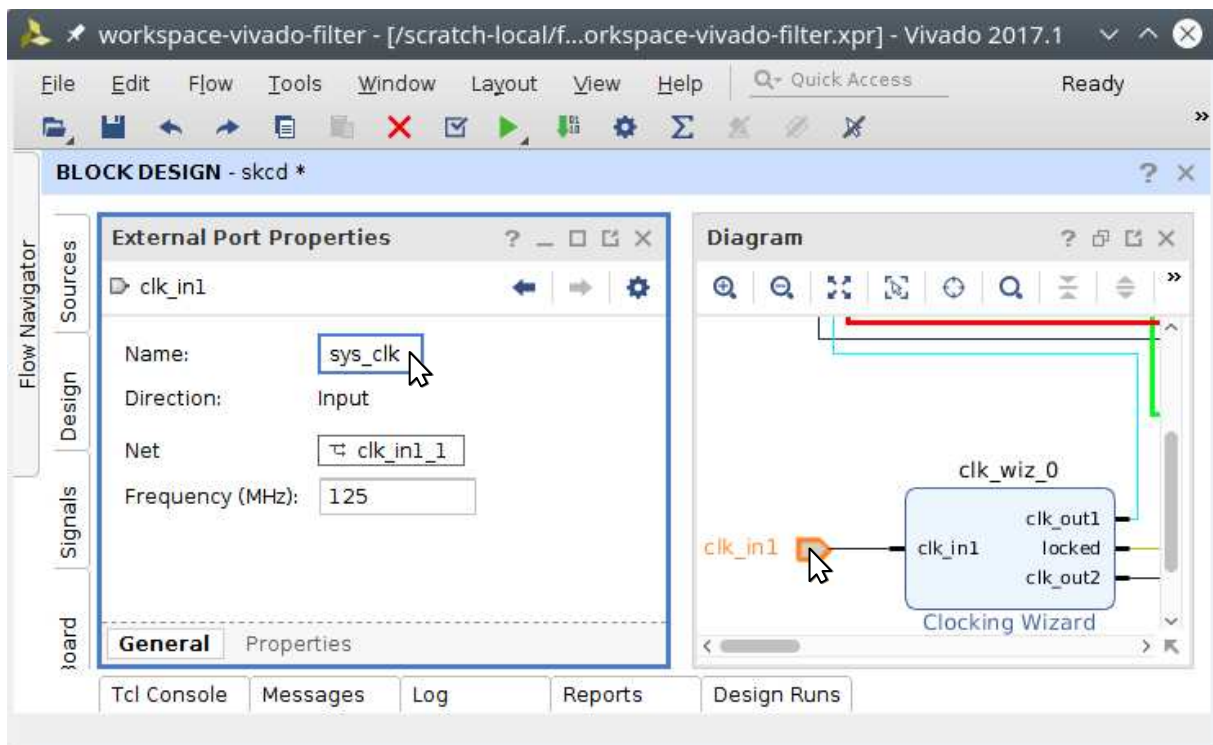

Figure 35: Renaming the clk_in1 input port to sys_clk
- s) Thus, rename (see Figure 35) the `clk_in1` input port to `sys_clk` by clicking on the port and changing its name in the **Name** text field of the **External Port Properties** window. Then, save the block design by pressing **Ctrl+S**.